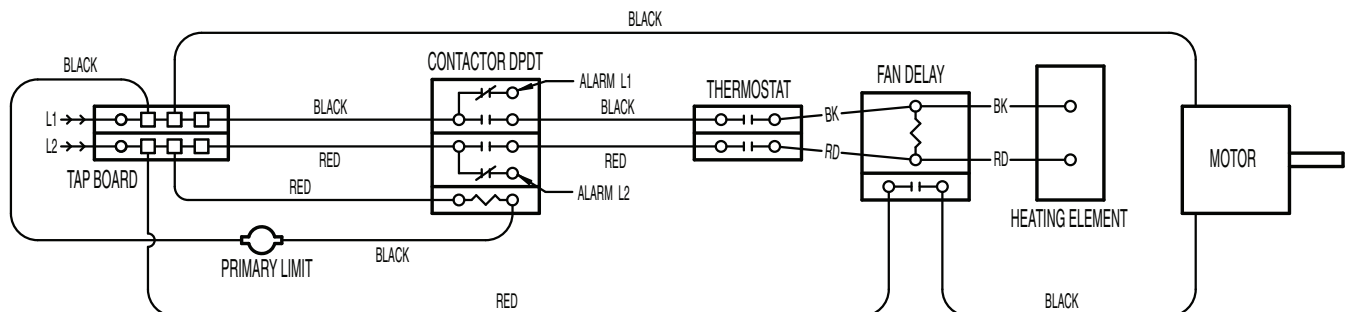

Figure 4 Wiring Diagram
3. Connect the wire to the power terminal block located in the base of the heater (See Figures 4 and 5).
NOTE: This unit is provided with two 1/4" male quick connect terminals (see Wiring Diagram, Figure 4) marked as Alarm 1 and Alarm 2, to allow for an external alarm to be connected to the unit if desired. This option can provide notification if the heater overheats and cycles on the thermal over-temperature limit. Each terminal (Alarm 1 or Alarm 2) will provide 120 volts to ground. Connection to both Alarm 1 and Alarm 2 terminals will supply line voltage (208 or 240V) to the alarm.